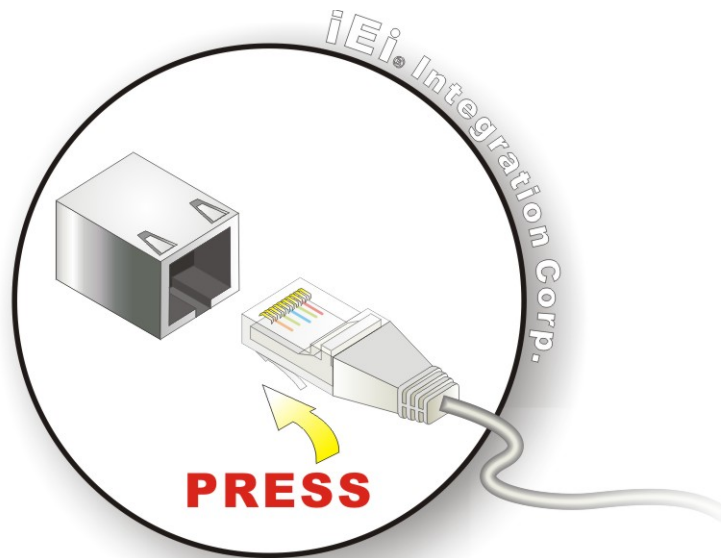

Figure 3-8: LAN Connection
Step 2: Align the connectors. Align the RJ-45 connector on the LAN cable with one of the RJ-45 connectors on the TANK-620-ULT3. See **Figure 3-8**.